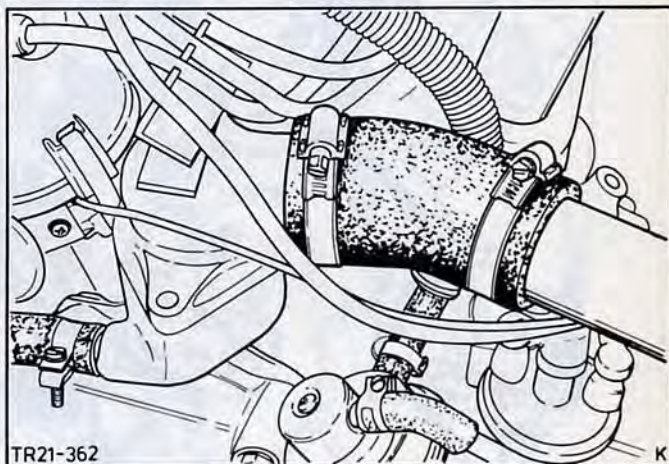

Fig.24. Fit top radiator hose.
35. Slide on top and bottom radiator hoses and tighten the hose clips, Fig.24. Pour in coolant. Check engine oil level and top up as necessary.